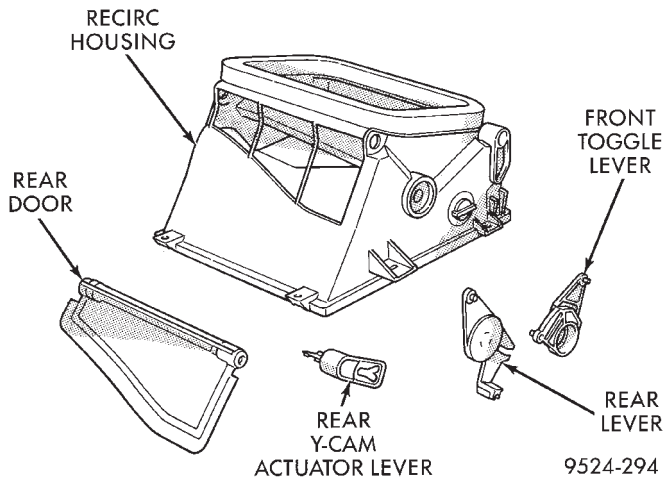

Fig. 81 Rear Air Inlet Door
- (10) Unsnap and remove rear air inlet door (Fig. 81).